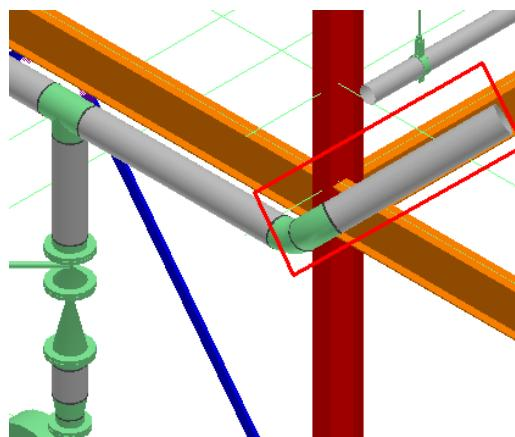

Figure 58: Placed Elbow and Routed Pipe
2. Notice that the active WBS project is **PJ-99**. Therefore, when routing or inserting components, the new objects will be claimed to WBS project **PJ-99** automatically. Insert a **45 deg elbow** and route a **5 ft** pipe from the free end of the pipeline **1001-P** in Unit **U01** of your workspace by using the **Insert Component** and **Route Pipe** command. After inserting the elbow and routing the pipe the view of the model should resemble Figure 58.